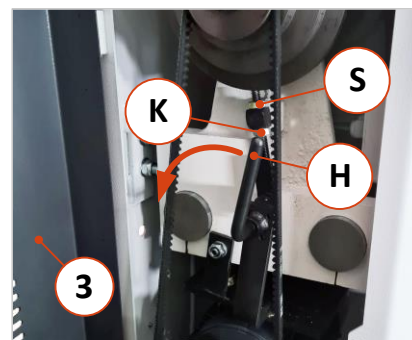

Figure 24: Tensioning the drive belt
- To replace the belt, swivel the lever (H) shown in ⇒ Figure 24 by 90° to the left until the belt can be removed easily and without jamming. Then the new belt can be fitted and the lever (H) can be tensioned again.